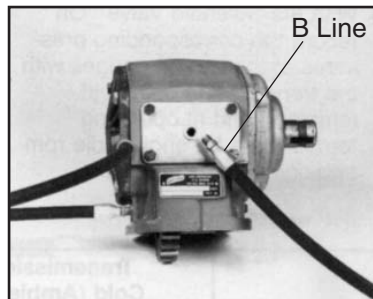

Figure 20
4. Remove the B line from the PTO with the Solenoid Valve On. No oil should appear from the line. Then turning the Solenoid Valve to Off should dump the oil from the PTO Clutch Pack through this line (**Fig. 20**).